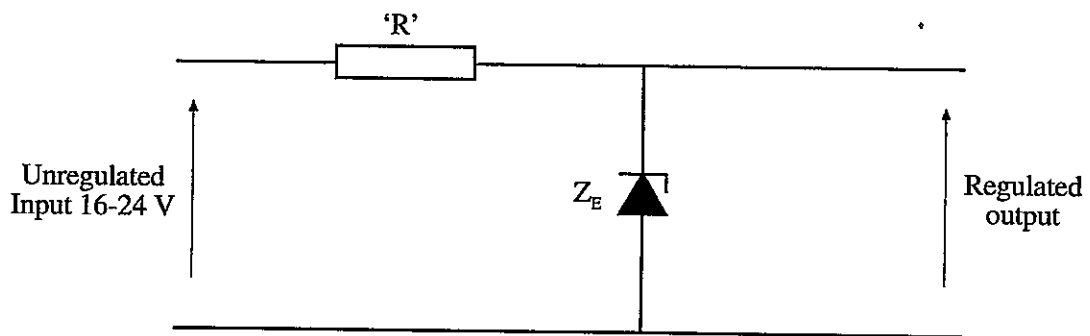

Fig Q3
- (a) the resistance of the coil; (6)
- (b) the energy stores in the coil when the current has reached its steady state value; (4)
- (c) the time taken for the current to fall to 50% of its steady state value when the supply is switched off. (6)
3. Fig Q3 shows a basic voltage regulator circuit using a Zener diode and a series resistor. The input voltage can vary between 16 and 24 volts and the Zener diode has a breakdown voltage of 12V. The slope resistance of the Zener diode is  $1\Omega$  and it requires a minimum reverse current of 2mA. for satisfactory regulation. If the regulated output current can range between 20 mA and 200mA.